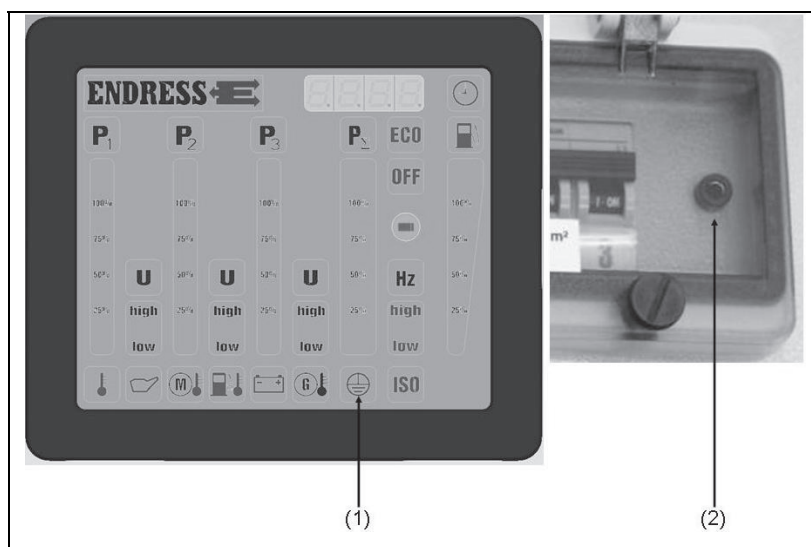

Figure 4-4: Check the protective conductor
1. Insert test cable into socket (Figure 4-4-(2)).
The test lamp (Figure 4-4-(1)) on the multifunctional display shows the result: